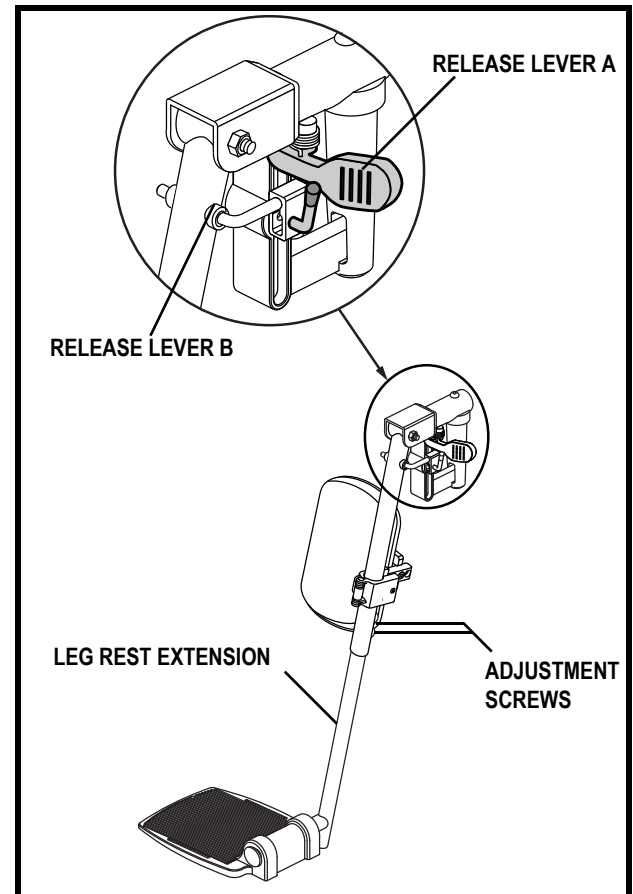

Figure 24. Elevating Leg Rests
1. Push down release lever B. See figure 24.
1. Remove the two adjustment screws from the side of each leg rest extension. See figure 24.